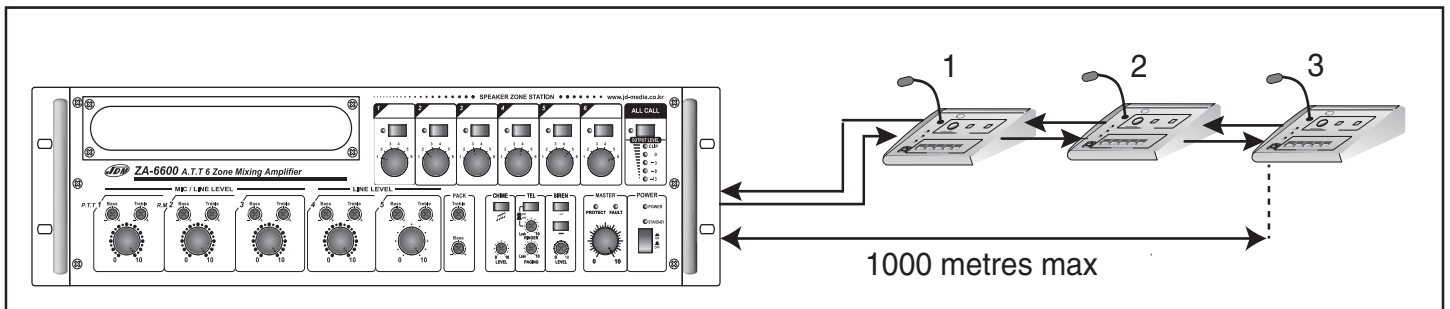

Figure 1: Wiring for optional multiple remote paging consoles - up to three units
7. **LINK---OUTPUT** – Power, data, audio and control signals are all transmitted and received along a pair of Cat5e UTP cables (RJ45 connectors). The combined total length of cable pairs from the amplifier to the last A 4353 paging console is 1000m. See Fig. 1.